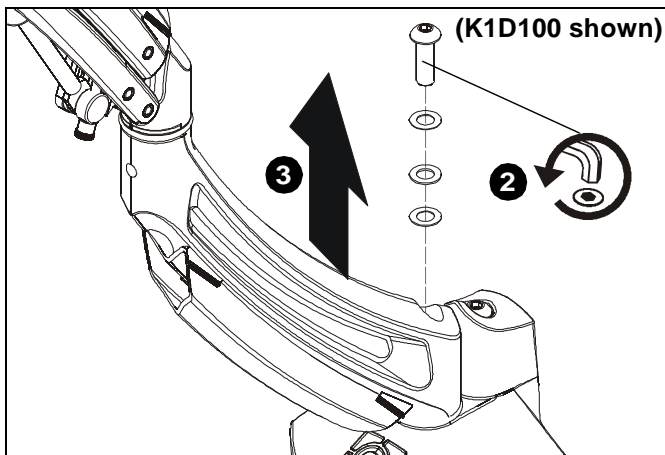

Figure 1
2. Disassemble mounting arm of Kontour™ mount by unscrewing button head cap screw and removing three assembled washers. (See Figure 1)
3. Remove arm from pin by lifting arm off of pin. (See Figure 1) Set arm and removed hardware aside for reuse.